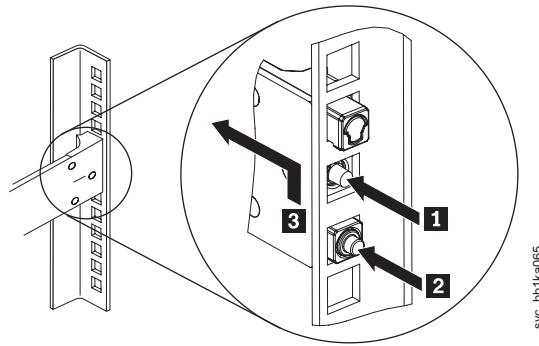

Figure 46. Disengaging the SAN Volume Controller 2145-CF8 slide rails from the rear of the rack
- a. Push in the pins in the order shown by **1** and **2** in Figure 46 on page 67.